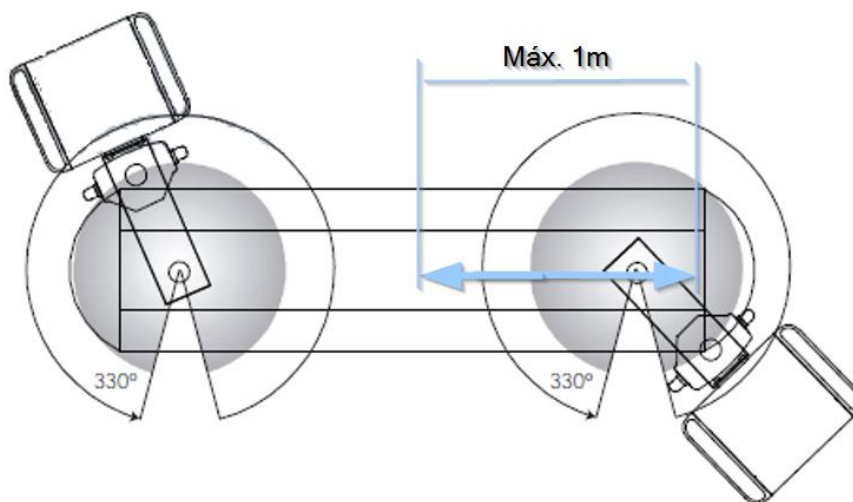

Fig.23 Adjusting the travel limit switches. Maximum stroke
By default, the system is supplied with the 2 stops ② and the fixing screw ① pre-assembled as shown in figure 23 of item 6.8.1.